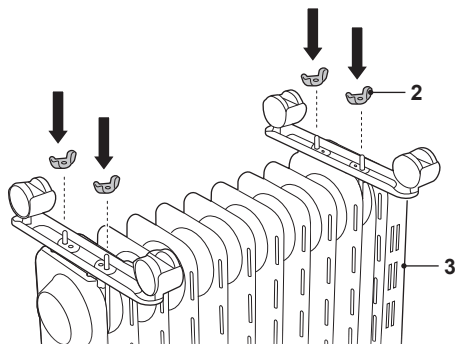

Fig. 2
3. As shown in figure 2, two sets of castors are tightened with four butterfly nuts. Once firmly tighten, put the heater in place-just put the wheels on the ground.